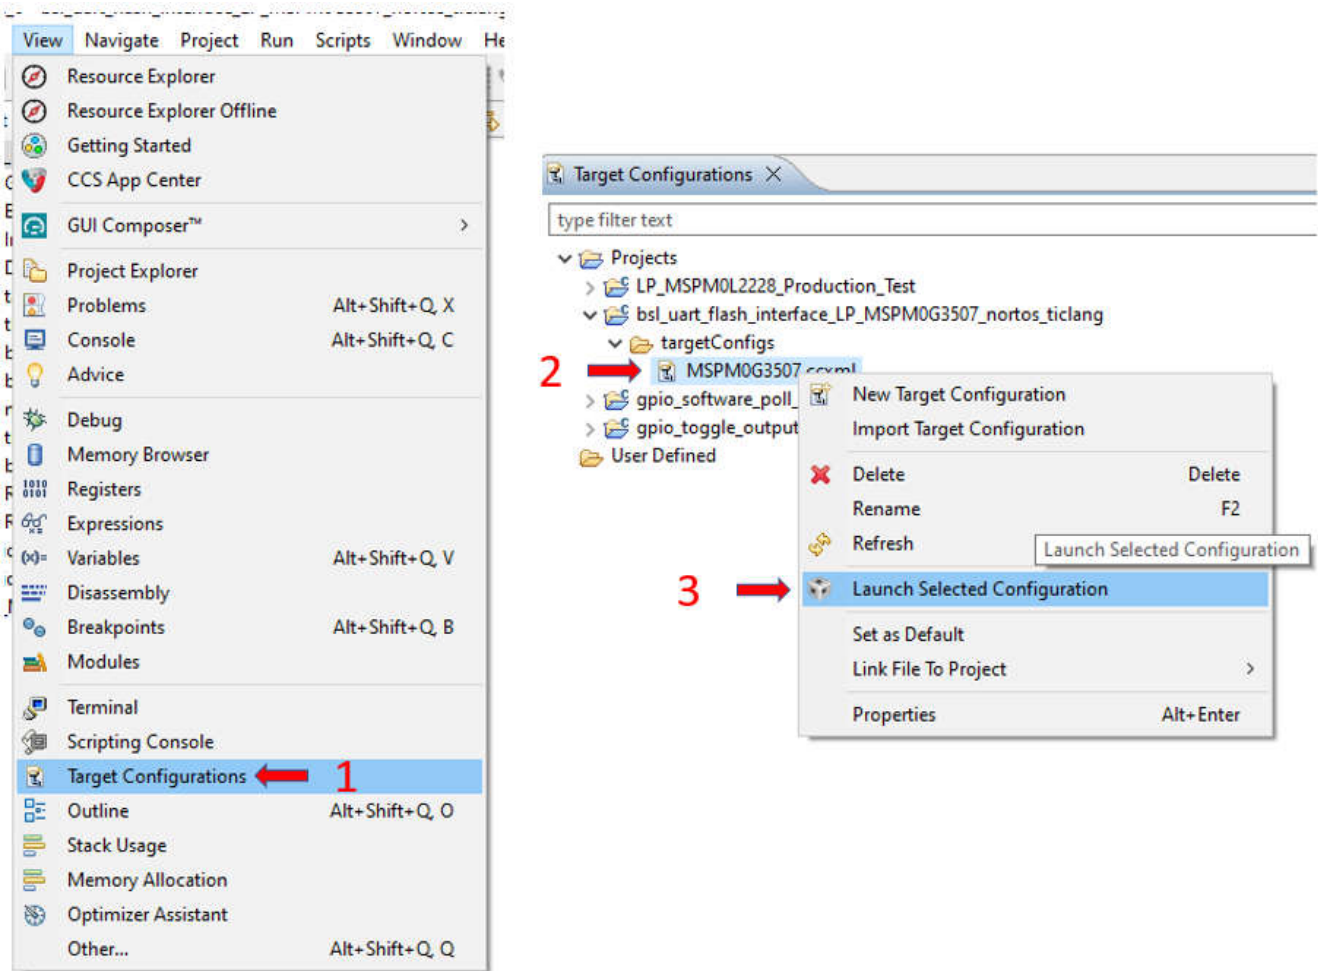

Figure 4-1. Launch the Device in CCS
3. Launch the device as below in Figure 4-1. Step 2 is right click of the ccxml file.